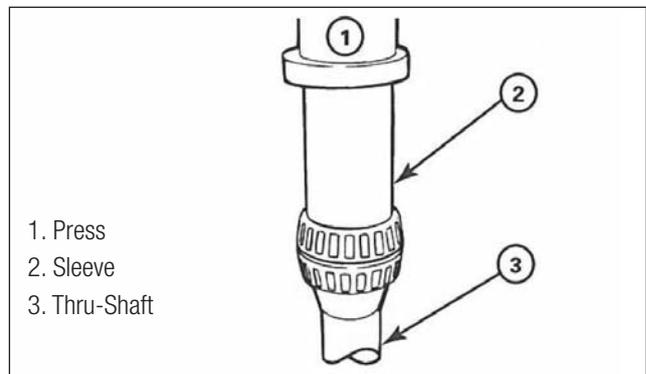

Fig. 2.126
2. If the bearing cones were removed from the thru-shaft, install new bearing cones. Place both cones back-to-back on the thru-shaft. Use a press and a sleeve to install both cones. Apply pressure until the inner cone seats on the shoulder of the thru-shaft. Figure 2.126